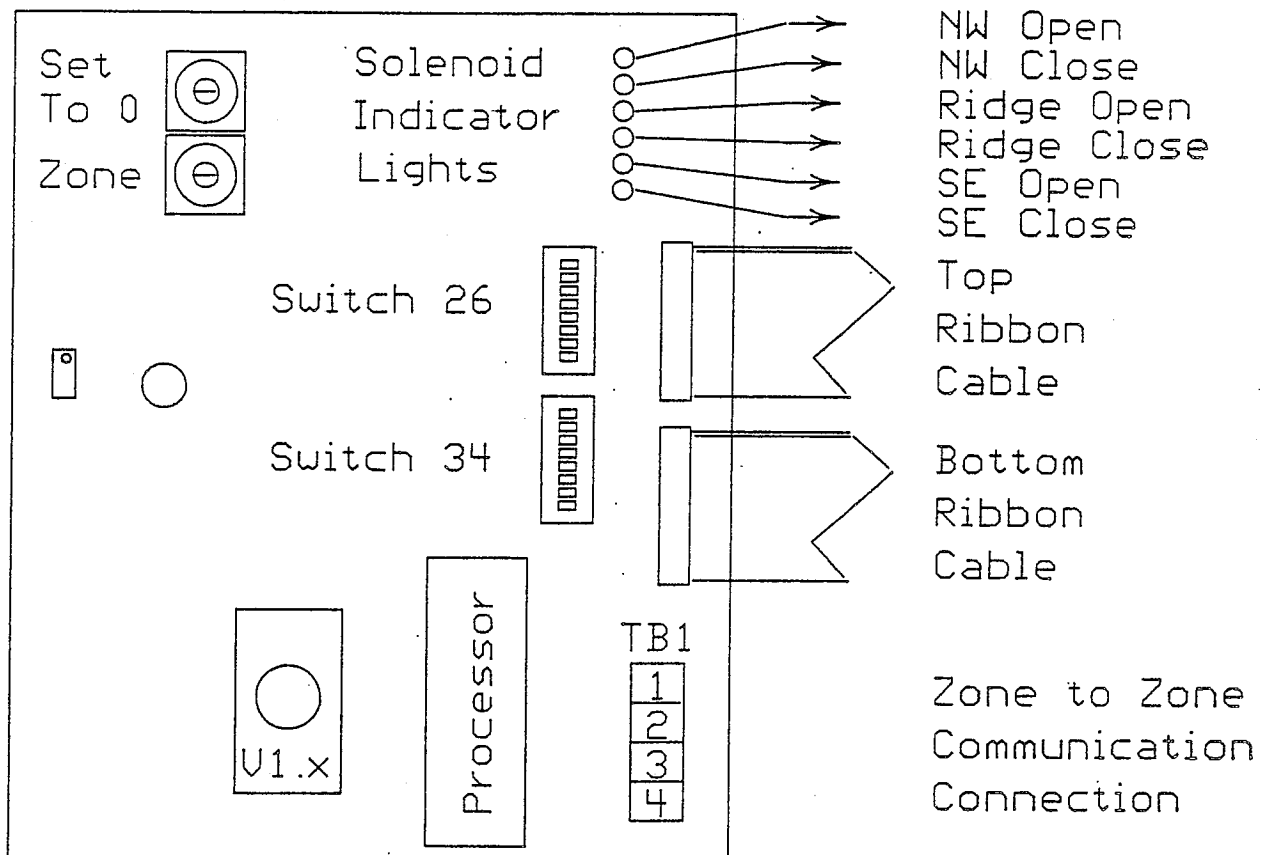

Figure 2
##### Options Wired to the ZS-20 Cover (See Figure 2)
If more than one ZS-20 is installed in the barn, you will need to install a communication cable between the units and also to the optional Barn Management Center (BMC-30). The cable is connected to the terminal block (TB1) on the printed circuit board inside the cover of the ZS-20 (See figure 2). Use the top two positions on the four position terminal block for the connection to a two-wire cable (20-2 jacketed cable). The units are wired together so that all of the top terminals connect to
If more than one ZS-20 is installed, the units must be set to individual identification numbers to be able to communicate with each other. The numbers are set on the two yellow 16-position rotary switches near the top edge of the inside cover of the ZS-20 (See Figure 2).
After initial installation is complete, each piece of equipment that the ZS-20 controls can be tested manually to make sure that it is working correctly. The two DIP switches located on the inside cover of the ZS-20 can be used to manually override the automatic controls (See Figure 2 for location and Tables 5 & 6 for switch positions and corresponding functions).
2. Check the solenoid indicator lights in the upper right corner of the inside cover (Refer to Figure 2). Three lights should be on or should flash on every 15 seconds.